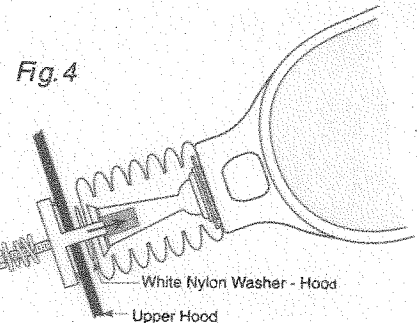

Fig. 4
**C** From the outside of the upper hood place the white nylon washer (M16-8) and mirror head mounting base onto the mounting plate shaft. From the inside of the hood insert the stainless Phillips/hex screw (with the washer and tension spring in place) into the mounting plate and mirror head mounting base and tighten (See fig. 4).